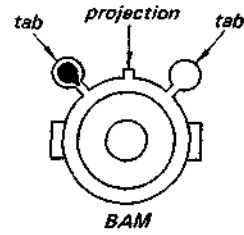
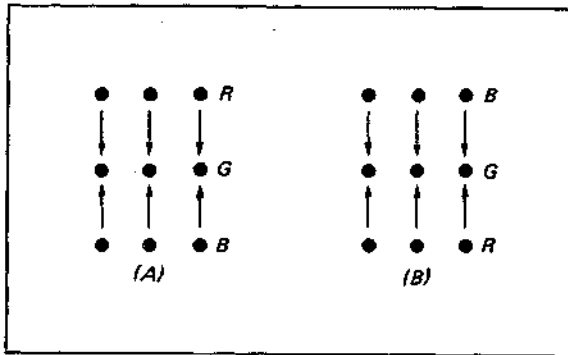

Fig. 3-9.
Fig. 3-7.
1. Spread the two tabs of beam alignment magnet in equal amounts opposite directions to converge red dots and blue dots with green dots. See Fig. 3-7, Fig. 3-8 and Fig. 3-9.